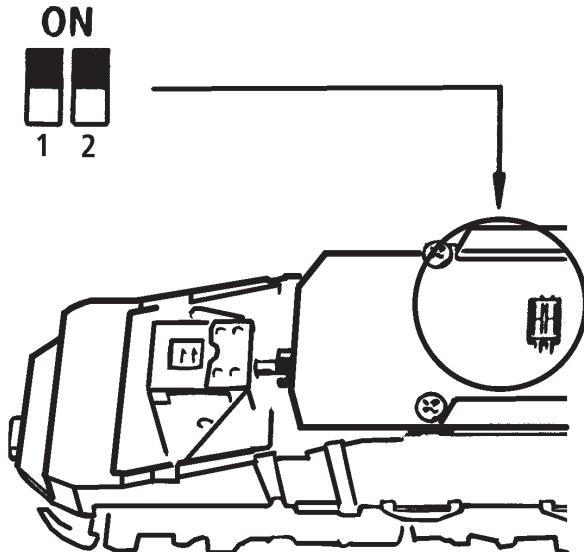

Fig. 7
3. Change of traction tyre: Remove the gear cover (fig. 7). Take out **wheel set** and remove **traction tyre** using a pin or a fine screwdriver (fig. 9). When pressing on the new traction tyre please **avoid twisting it**.
voir } Fig.7